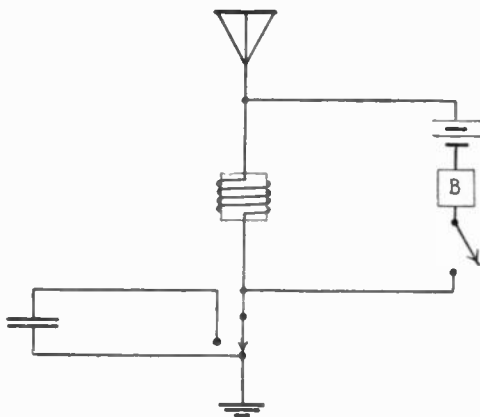

Fig. 6.—A More Exact Method of Determining the Capacity of an Antenna.
and ground, with a buzzer around the coil, Fig. 6. The wave-length of the circuit is measured, giving a value  $\lambda_1$ . Then a series condenser of known capacity,  $C_1$ , is inserted, and the wave-length taken again,  $\lambda_2$ .  $C$ , the capacity of the antenna, is determined by substituting and solving (25).
formulas in Section 9. Measurements of inductance can be made with the circuit in Fig. 6, using a known inductance in place of the condenser.